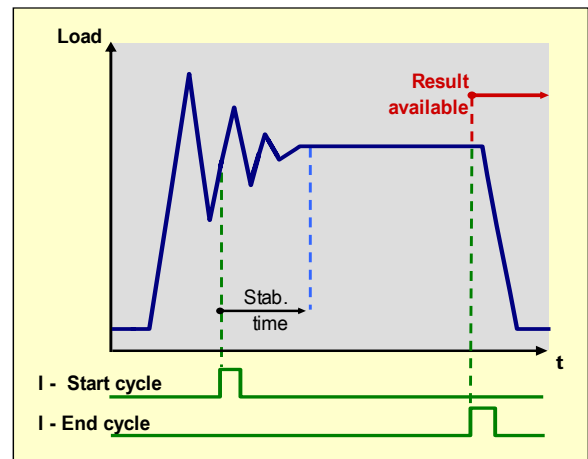

Fig. 8
- a duration prior to an edge on an input assigned to 'stop checkweigher cycle' (Fig.8).